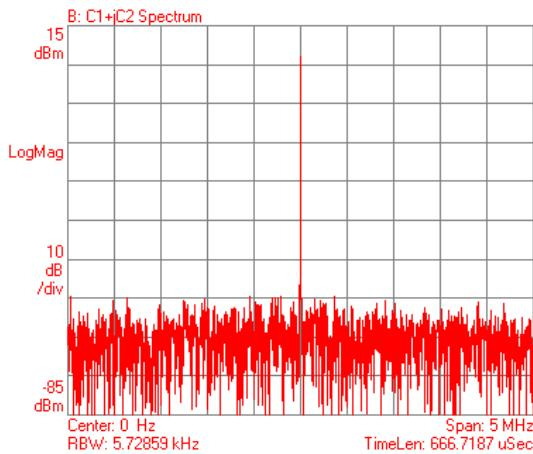

Figure 46. Receiver LO leakage
2. Set the receiver path for maximum gain (VGA1 120, VGA2 30 dB, LNA max gain). The uncalibrated Rx LO leakage is shown in Figure 46.